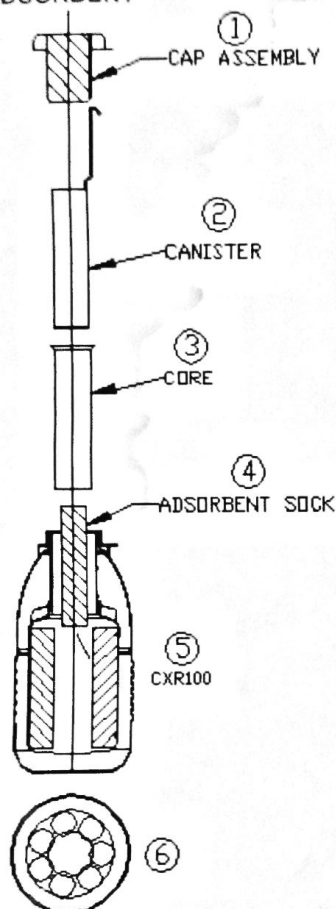

FIGURE 1.0
- A) On a clean working surface in a well ventilated area and the CXR at ambient temperature, begin by removing the cap assembly and canister (items 1 and 2) shown above in figure 1.0.
- B) Wearing gloves made from one of the following: polyethylene/ethylene vinyl alcohol, polyvinyl alcohol, Teflon or Viton, reach down the necktube and remove the core (item 3).
- C) Reach in and remove one at a time the 7 adsorbent socks (item 4). Dispose of the used socks properly.
- D) Clean the empty CXR (item 5) with an approved disinfectant, and then dry thoroughly.
- F) Replace the Core (item 3)